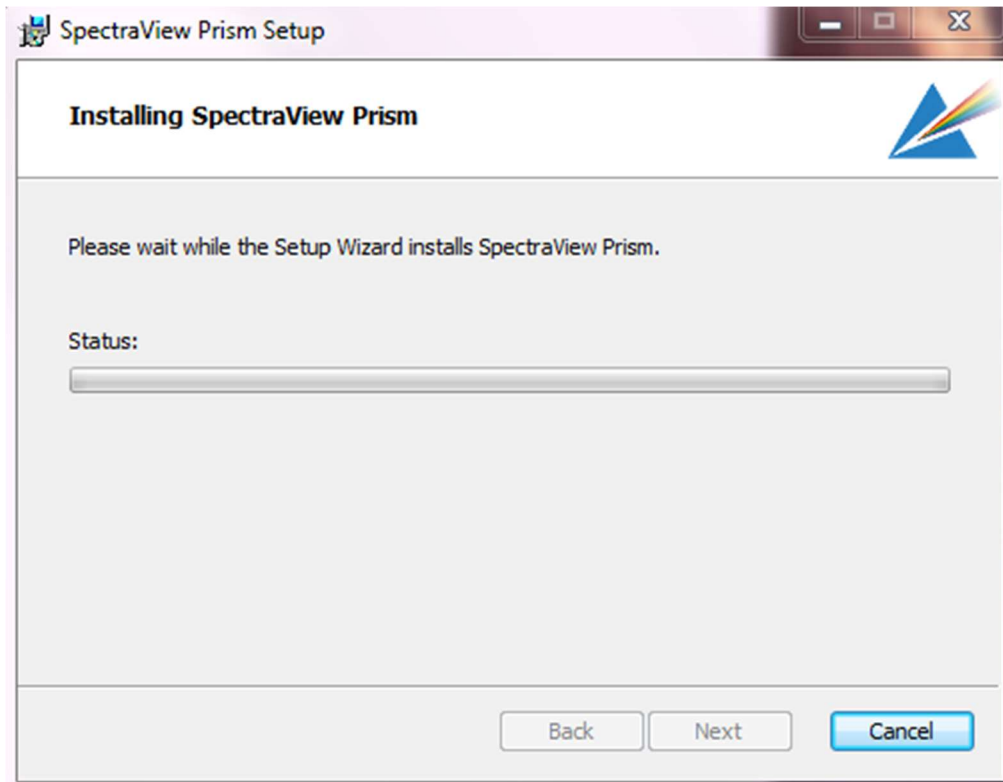

Figure 2-2 SpectraView® Prism Setup Screen
4. After a short delay, the installation screen, Figure 2-2, will appear and the *SpectraView® Prism* Client will begin installation.